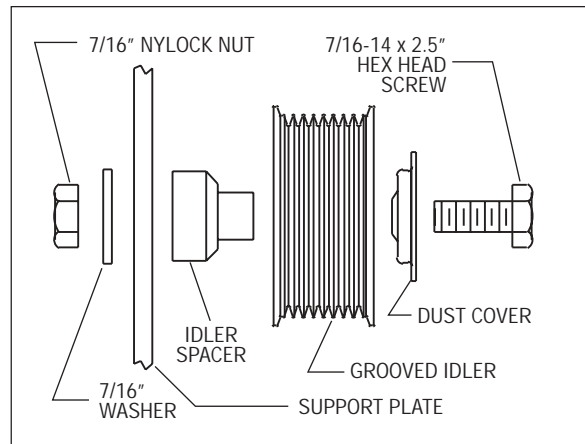

*Fig. 10-a*
- C. Loosely screw the 1" wide damper bracket to the driver's side head using the spacer, M14 screw and washer. Do not tighten. (See *Fig. 10-b*.)